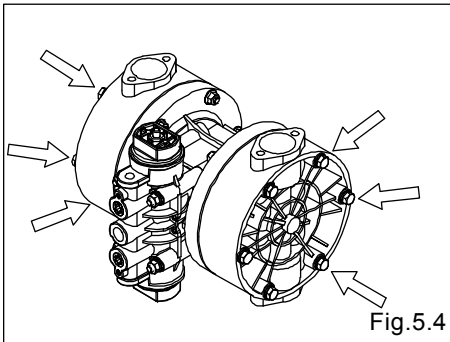

Fig.5.4
- Remove the 12 retainer bolts from the out chamber, and remove the out chamber. [Fig.5.4]